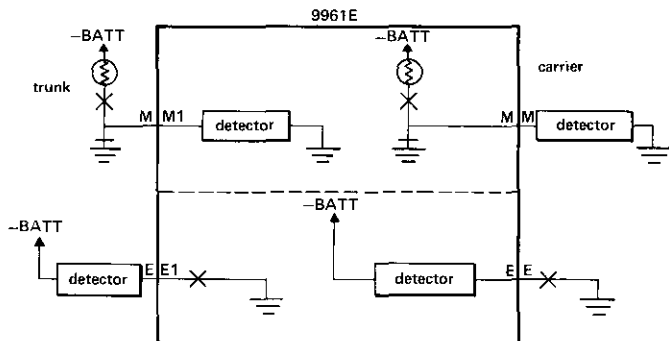

figure 3. 9961E subassembly arranged for E-lead originate
2.03 When the 9961E is optioned for the E-lead-originate mode (S1 set to the E position), it acts as a coupler between an M-lead-originate trunk circuit and an E-lead-originate carrier circuit (figure 3). Normally, when an M-lead-originate circuit interfaces an E-lead-originate circuit, the E and M